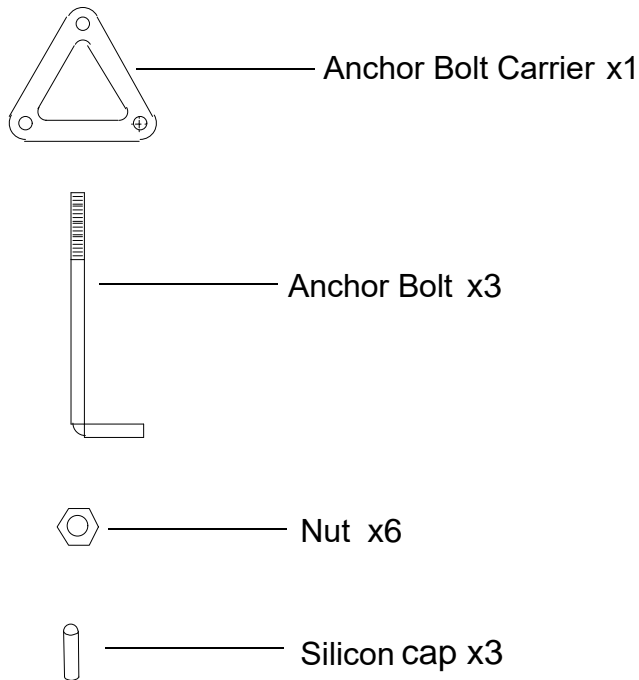
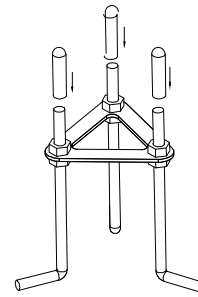

Fig1
Fig2
Remove the luminaire (Fig 1) and accessories (Fig 2) from the carton and inspect luminaire for damage. Do not install a damaged luminaire.
Remove the accessories in Fig1 from the package, and make sure all parts in good condition and right qtys.
- Prepare site. Get the anchor bolt carrier assembled as Fig2 and protect the threads from concrete splash with silicon caps.